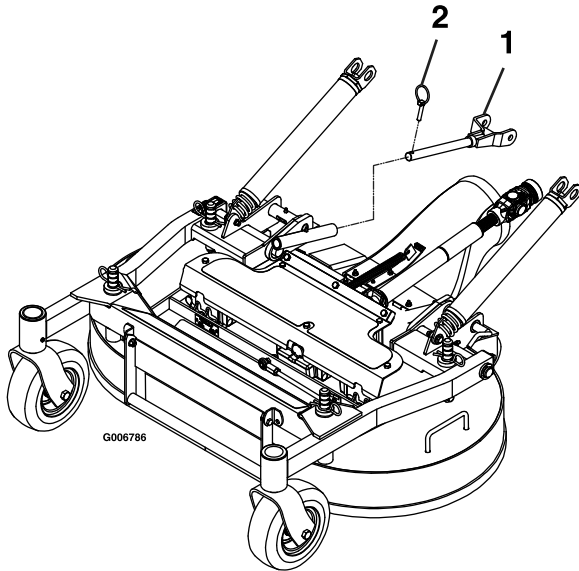

Figure 69
- Remove the lynch pins at front of push arms on both sides of the machine (Figure 69).
- Secure the push arms with the lynch pins on the left and right sides of the machine (Figure 69).